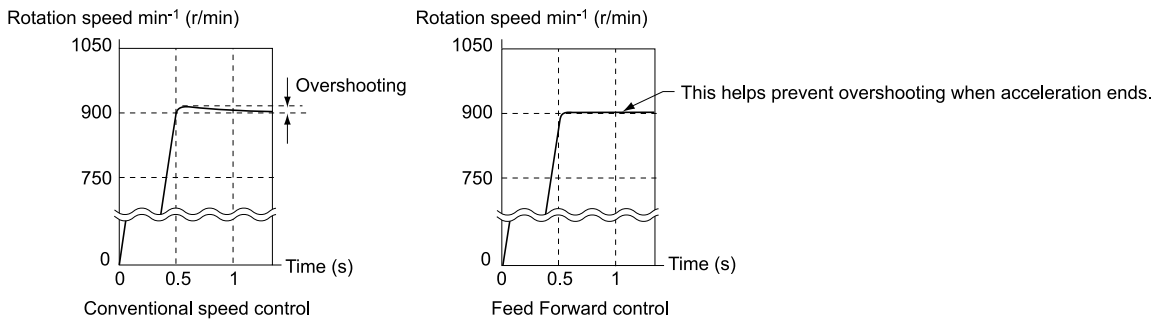
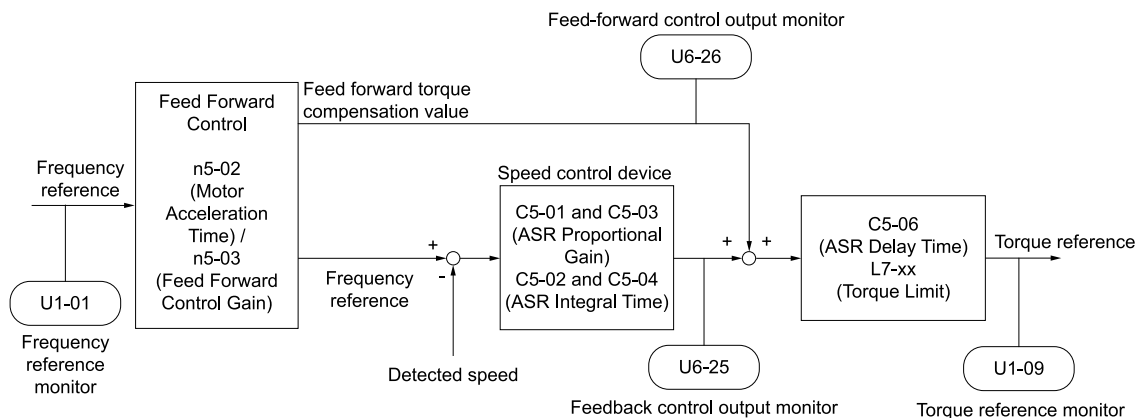

Figure 11.139 Suppress Overshooting with Feed Forward Control
Figure 11.140 Configure Feed Forward Control
Increasing the values set in C5-01 and C5-03 [ASR Proportional Gain] is effective in applying feed forward control to machines with low rigidity for which hunting and vibration are likely to occur or to machines with significant inertia. Applying this function while using CLV control also helps prevent overshooting. Refer to Figure 11.139 for details. Refer to Figure 11.140 for more information on parameters related to feed forward control.
- If Inertia Tuning cannot be performed, refer to Figure 11.140 and set the parameters related to feed forward control individually.